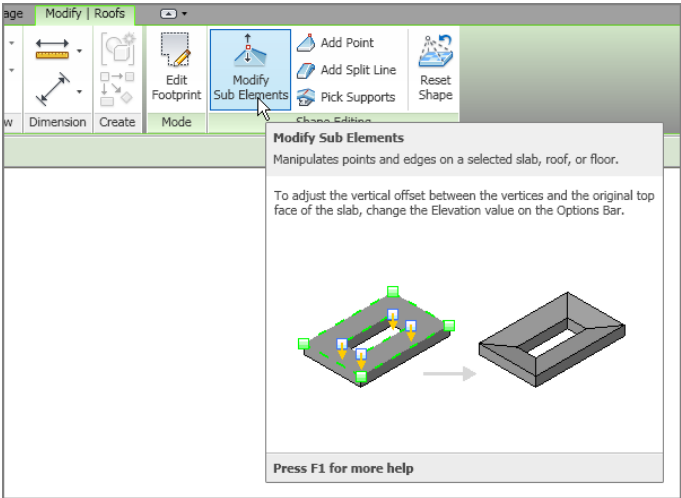

FIGURE 7.13: Click the Modify Sub Elements button to gain access to the points on the roof.
26. There is a node where you picked the point. To access the node, click the Modify Sub Elements button on the Shape Editing panel, as shown in Figure 7.13.